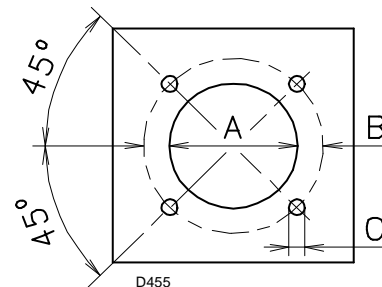

Fig. 11
Drill the combustion chamber mounting plate as shown in Fig. 11. The position of the threaded holes can be marked using the gasket supplied with the burner.
- Place entire burner on the boiler hole (arranged previously, see Fig. 11), and fasten with the screws given as standard equipment.